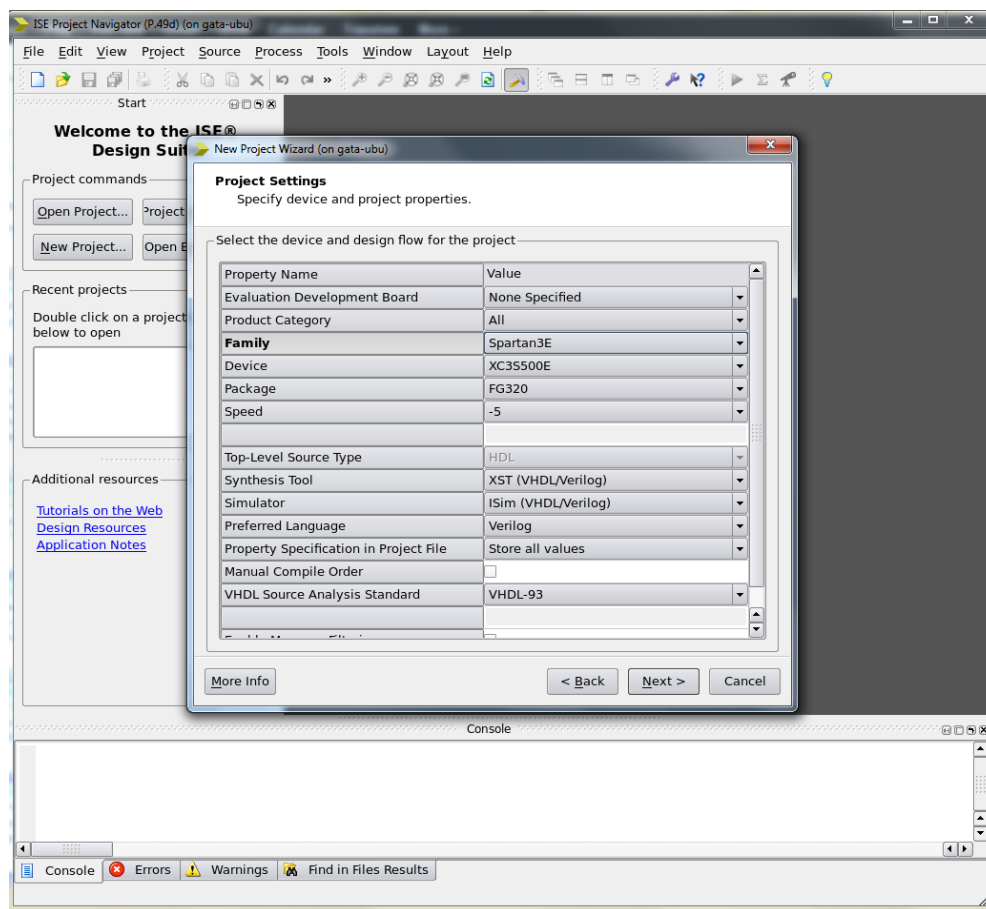

Figure 1: Create a new project using ISE
5. Create a new project for Spartan3E XC3S500E-FG320-5 as shown in Figure 1.